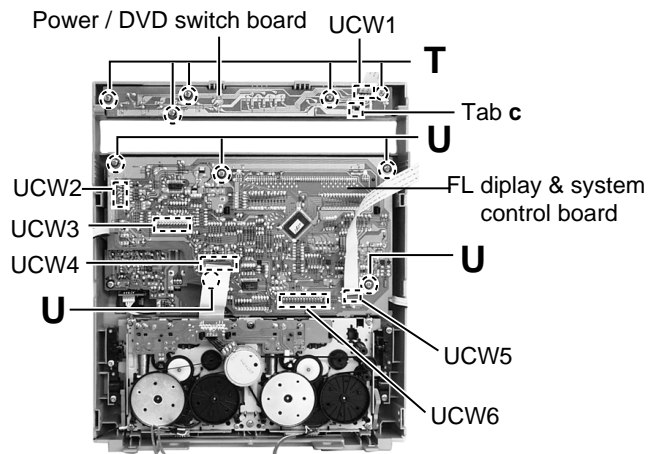

Fig.19
■Removing the power / DVD switch board (See Fig.19)
■Removing the FL display & system control board (See Fig.19)